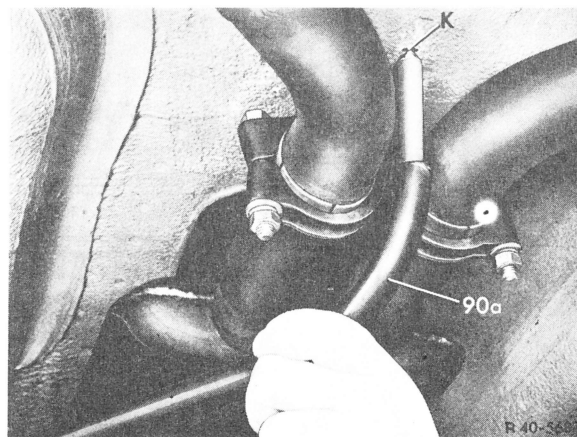

Fig. 3
Insert rod (90a or 90b) into inspection bore (K) in frame floor which serves as the starting point for all measurements (Fig. 3).